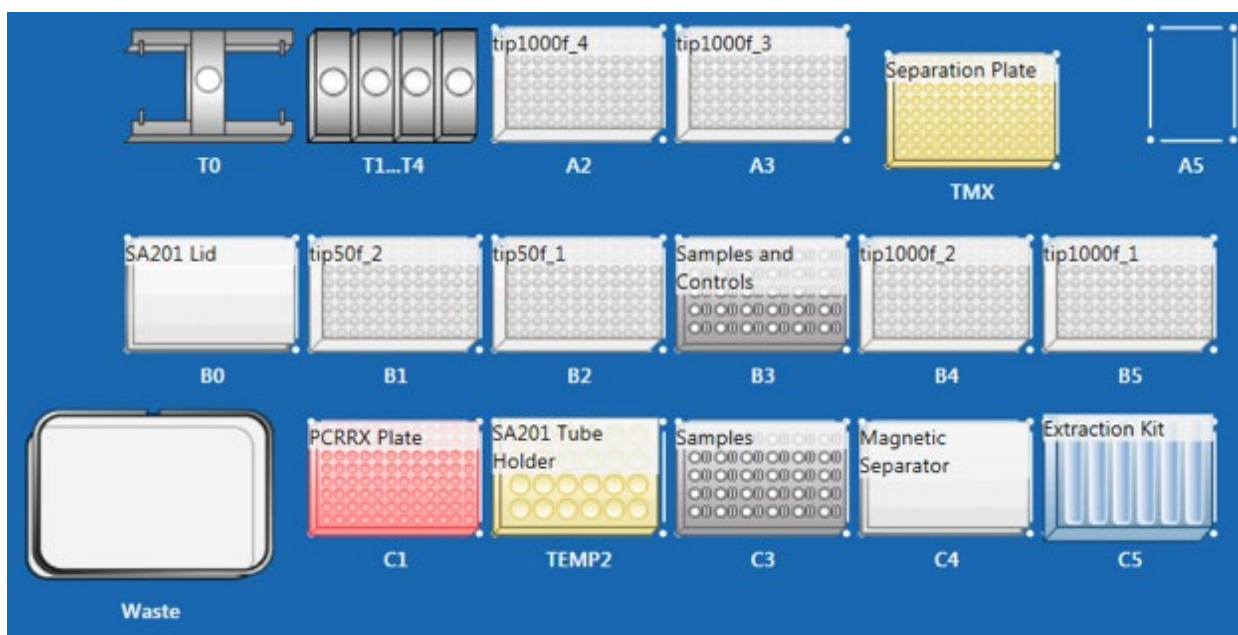

Figure 1. Layout of the *Sentosa* SX101 platform for 96 tests (for *Sentosa* SX101 only workflow)
Figure 1 shows the positions of consumables / labware on the *Sentosa* SX101 platform. Double line the *Sentosa* SX Waste Bin with biohazard bags. Please refer to the layout as indicated by the *Sentosa* SX101 instrument software or the appendix to load all items in the correct positions.
- 2.5. Place the correct *Sentosa* SX Reservoirs and Modules into positions 1 to 7 of the *Sentosa* SX Reservoir Rack 7 (refer to **Figure 1**, C5) according to the table below.
- 2.10. Set the MicroAmp Fast Optical 96-Well Reaction Plate with Barcode, 0.1 mL on the epMotion Thermoblock for PCR 96 Wells (Thermoblock PCR 96), and place the assembly on position C1 of the *Sentosa* SX101 platform (refer to **Figure 1**).
- 2.11. Load the *Sentosa* SX Non-Partition 1000 μ L Filter Tips, *Sentosa* SX Deepwell Plate 96/2000 μ L, *Sentosa* SX Non-Partition 50 μ L Filter Tips and *Sentosa* SX Magnetic Separator on the *Sentosa* SX101 platform. Please refer to the layout as indicated by the *Sentosa* SX101 instrument software (see **Figure 1**) or the appendix to load all items in the correct positions.
2.16. Load NC, PC and samples onto the Sentosa SX Rack 0.5 + Adaptor / 1.5 / 2.0 mL (refer to **Figure 1**, B3 and C3) as illustrated below.
After scanning, place the reaction plate back onto the *Sentosa SX* Thermoblock PCR 96 OC (refer to **Figure 1**, Location: C1). The reaction plate should be oriented with the barcode label facing towards the user.